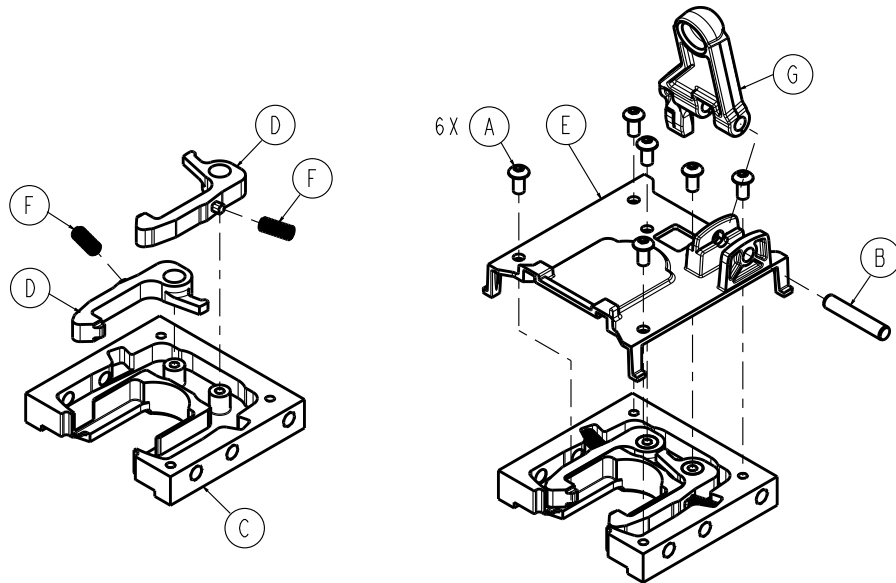

Figure 6 – Replacing the foot end lock pawl
2. Using a 1/8" punch, push the dowel pin (B) out of the release latch arm (G) (Figure 6). Save the dowel pin.
3. Using a T25 Torx driver, remove and save the six screws (A) that secure the pivot bracket to the foot end interface (C) (Figure 6).
4. Remove and discard the lock pawl (D) (Figure 6).
**Note** - Make sure that the pawl spring (F) remains in place when you remove the lock pawl (Figure 6).